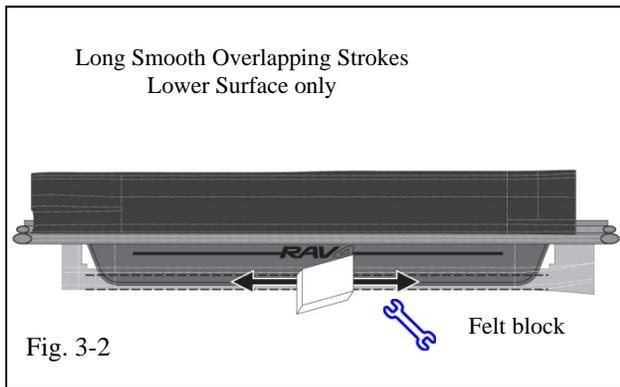

Fig. 3-2
- (e) Using a felt block, squeegee the lower portion of the protector to the vehicle with long smooth overlapping strokes starting in the center working out to each end (Fig. 3-2).